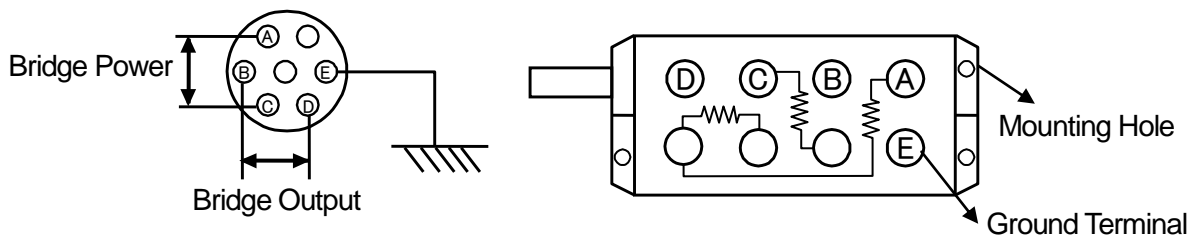

Figure 4-1 Bridge Box Overview
(1) Installation
- b. The bridge box may be secured with screws using the screw holes shown in Fig. 4-1, as needed.
(2) Connections to bridge box (5370/5373/5379/5380)
- a. As shown in Fig. 4.1, pins A and C are provided for the bridge power supply, and pins B and D are provided for the input to the amplifier unit. Pin E is the common terminal.